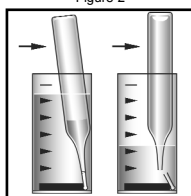

Figure 3
For CHEMetrics photometers, follow the **Setup and Measurement Procedures** in the operator's manual. For spectrophotometers, set the wavelength to 560 nm. A sealed ZERO ampoule is supplied in this kit for zeroing when the sample is colorless and not turbid. For improved accuracy with colored or turbid samples, Sample Zeroing Accessory Pack, Cat. # A-0503 is recommended. Using the sample cup, snap the tip of the A-0503 ampoule in the sample (see figure 3 below). Invert the ampoule to mix. Dry the ampoule and use it in place of the supplied ZERO ampoule to zero the instrument.
4. Place the Vacu-vial ampoule, tip first, into the sample cup. Snap the tip. The ampoule will fill leaving a bubble for mixing (fig 3).